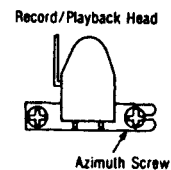

Fig. 2
3. Remove the 6 screws (⑥~⑪). 4. Remove the 2 connectors (CP1, CP2). 5. Remove the 2 flat cables (CN2P, CN60). 6. Remove the main P.C.B. in the direction of arrow. How to remove the flat cable  1. Lift the connector. 2. Pull out the flat cable.
How to check the main P.C.B. • When checking the soldered surfaces of main P.C.B. and replacing the parts, do as show. 1. Remove the 9 screws (①, ③, ⑥~⑪) in above figure. 2. Remove the 6 screws (⑫~⑰). 3. Remove the front panel ass'y in the direction of arrow A.  	4. Remove the bottom board ass'y in the direction of arrow B. 5. Reinstall the front panel ass'y to the main P.C.B.